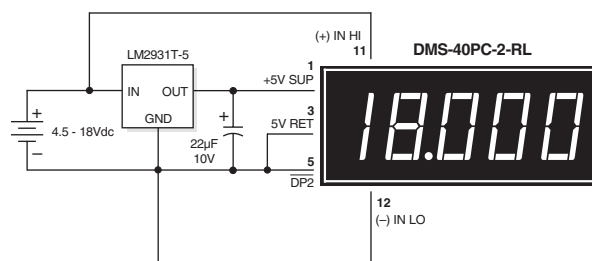

Figure 4. 4.5-18V Power Supply Monitor
- 3. Power Supply Monitoring:** One of the most widely used digital panel voltmeter applications is monitoring the output voltage of a system power supply — often the same supply that also powers the meter. The low-power, red LED DMS-40PC-2-RL, with its excellent 0.001Vdc resolution, can be configured to monitor power supplies with outputs in the range of 4.5-18Vdc. The circuit in Figure 4 uses a low-drop-out, three-terminal regulator (LM-2931T-5, in a T0-220 package, available from National Semiconductor) to provide regulated 5V power to the meter.